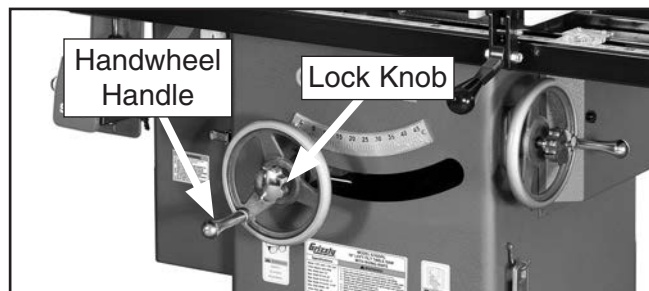

Figure 27. Lock knobs and handles installed.
- Thread lock knob into center of handwheel and tighten, then install handwheel handle (see **Figure 27**).
- Install remaining handwheel, lock knob, and handwheel handle (see **Figure 27**) in same manner.